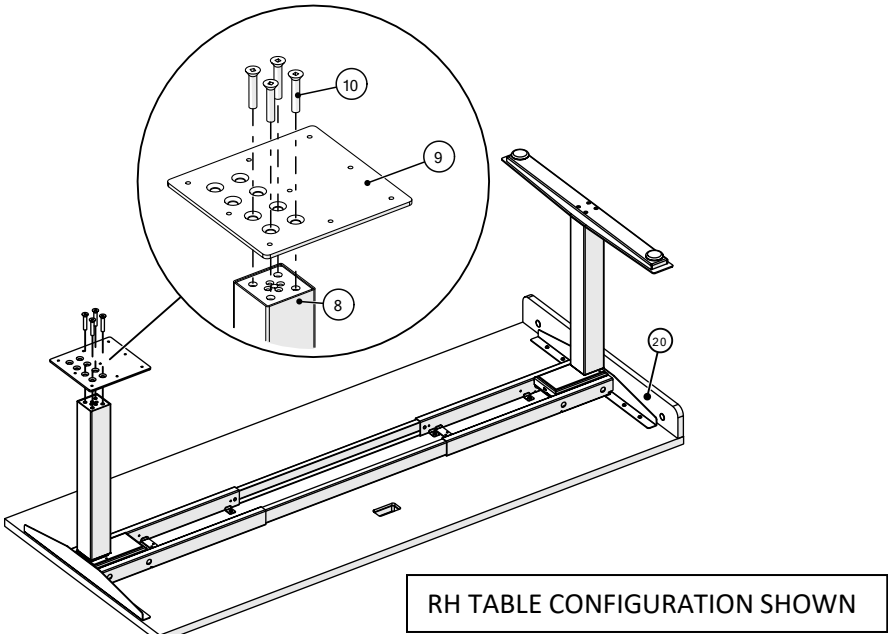

Figure 6
10. Depending on the desk configuration left or right. Install leg mounting plate depending the configuration LH and RH using 3/8-16 x 2" Flat Head Screws, Square Drive, (LH shown, Figure 6).